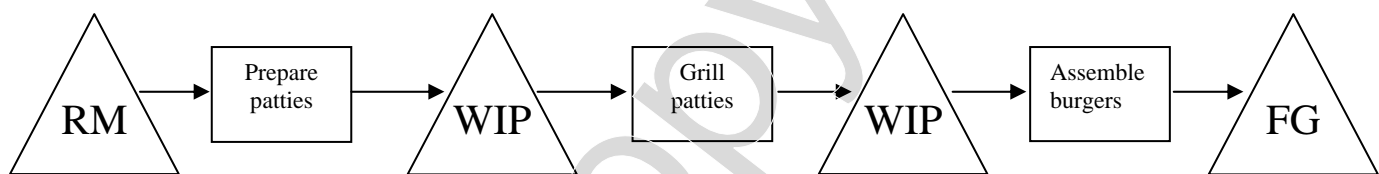

Figure 1: Hamburger Catering Process Map
Given the critical nature of operational processes in business, managers must have an effective method to analyze and improve them. Process maps (also known as process flow diagrams) provide a means to display complex processes. A process map displays the activities, material flow, and any raw materials (RM), work-in-process (WIP) and finished goods (FG) inventories in the process. Activities are displayed as rectangles, flows as arrows, and inventory as triangles (sometimes inverted). For instance, **Figure 1** displays a simplified process map for a catering operation preparing hamburgers.